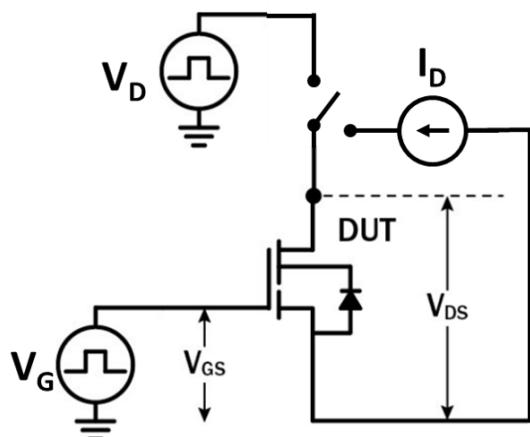

Figure 18. Dynamic $R_{DS(on)eff}$ Test Circuit
- a. Dynamic on-resistance; see Figures 18 and 19 for test circuit and conditions